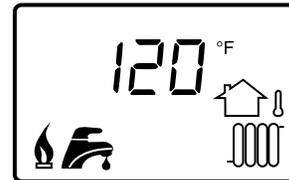

Figure 14-7: Home Screen While Running
7. If successful ignition, display will show flame icon (Figure 14-7)